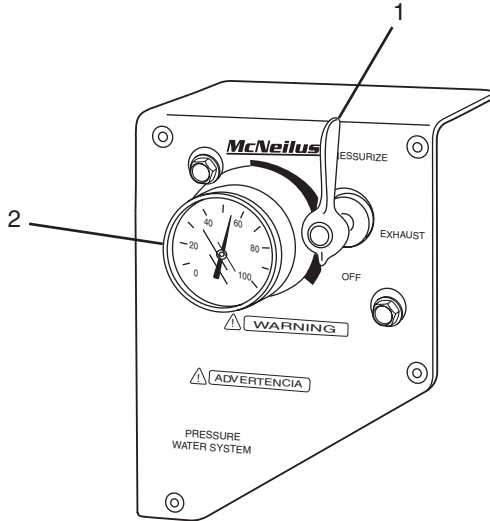

Figure 37
2. Turn the air pressure control valve to the PRESSURIZE position (Figure 37, Item 1). The water tank will be pressurized from the chassis air system.
3. The air gauge (Figure 37, Item 2) will read the pressure in the water tank. The pressure must not exceed 55 psi.